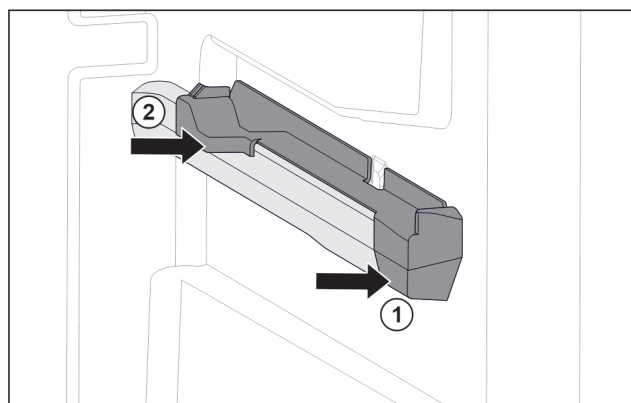

Fig. 122 Attachment on the right molded rib
- Position attachment on molded rib at the front. Fig. 122 (1)
- Press on attachment at the back. Fig. 122 (2)